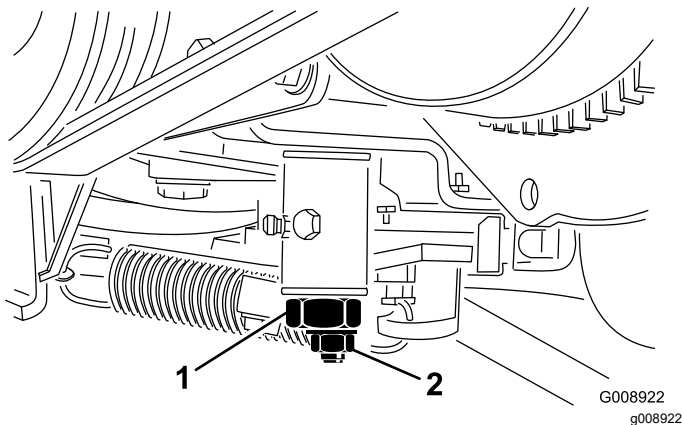

Figure 60
3. Loosen the locknut on the traction adjustment cam (Figure 60).